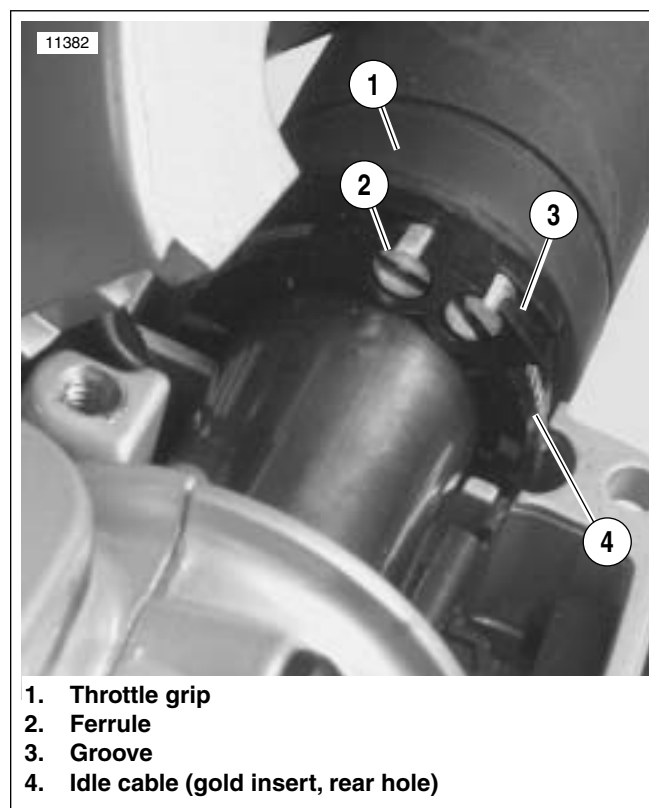

Figure 2-43. Throttle Cable Attachment (typical)
6. See Figure 2-43. Pull cables from housing by placing a drop of oil on retaining ring that holds cable in housing, then firmly pull bent tubing portion of cable out of housing using a rocking motion.
2. See Figure 2-43. Attach control cable assemblies to lower housing.
4. Fit ferrules (2) over cable balls. Slide ferrules into throttle notches and rotate so cables fit grooves (3) in throttle grip.